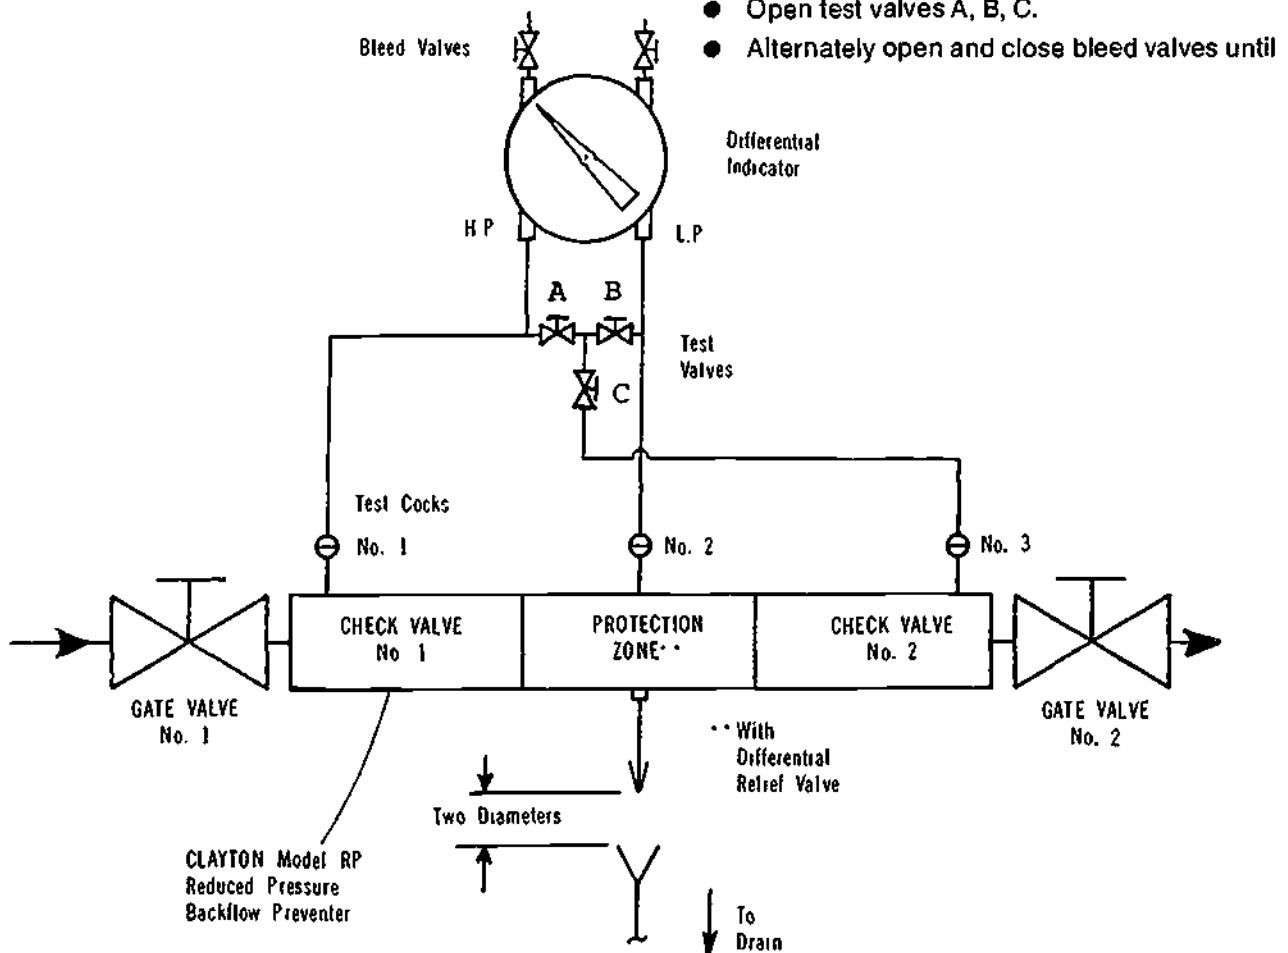

Figure 30-15. Test Kit and Test Procedure for Clayton Model RP Reduced Pressure Backflow Preventers
- Make connections as illustrated in Figure 30-15.